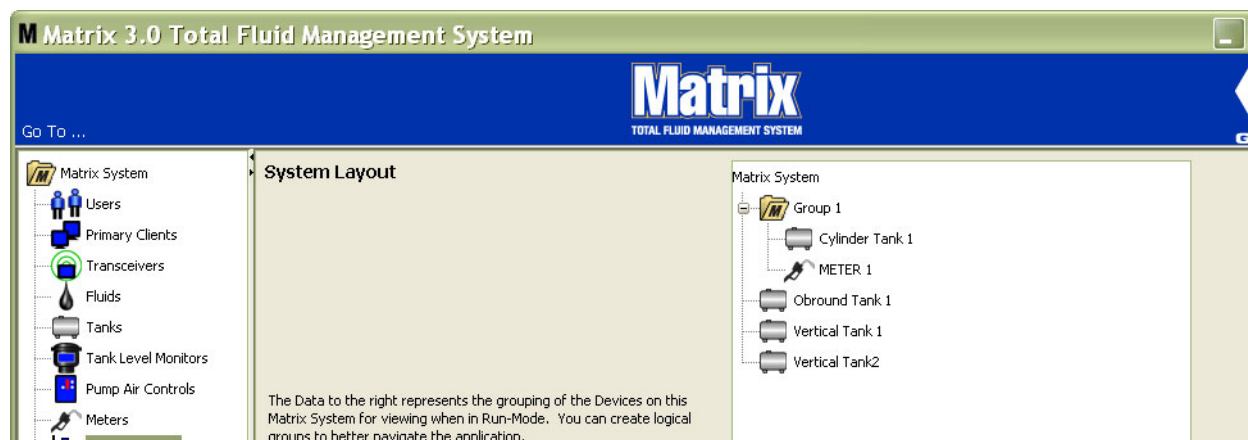

FIG. 132
12. When you are finished creating or modifying group folders, click OK to close the screen and save the changes. The Group(s) you created are displayed in the Matrix System column (FIG. 132).